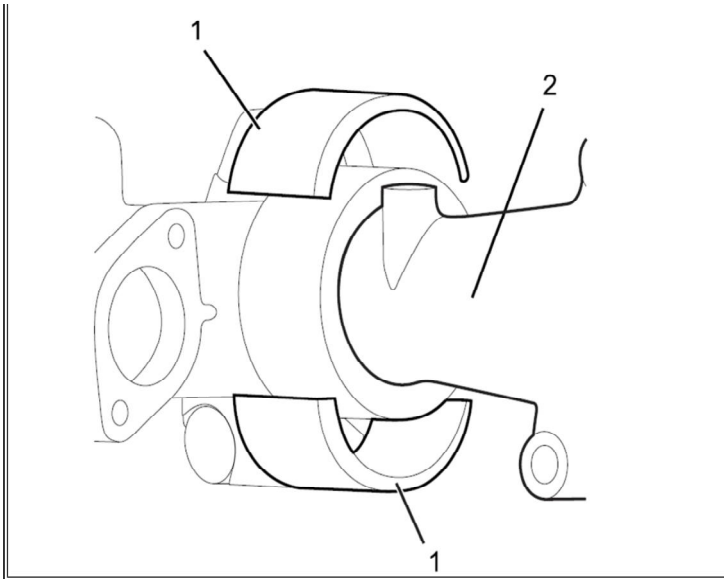

Figure 29: Front Exhaust Manifold Ring Seal Shields
31. Install two shield halves with beveled flange (Figure 29, Item 1) on seal packing end and align join with manifold midpoint.